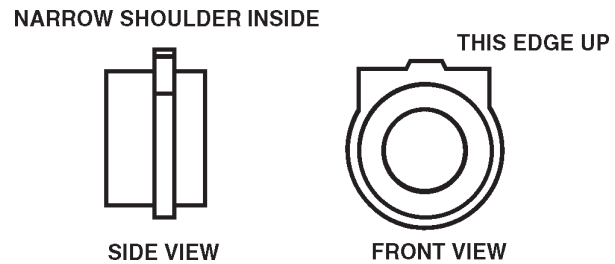

Figure 5-D: Segment bearing orientation
- 7) Hold the bearings on with your thumb and forefinger. Press the entire segment assembly into the "U" shaped groove shown in Figure 5-C until you feel the bearings click into place. Make sure the bearings are properly seated and the segment moves freely. **Never oil the segment bearings!**